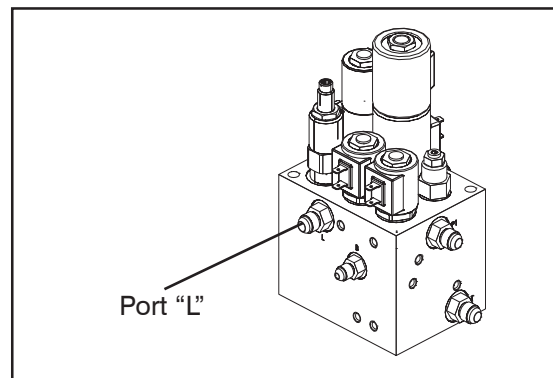

Figure 5-18. Lift Cylinder Hydraulic Hose Removal
3. Disconnect the lift cylinder hydraulic hose from the main hydraulic manifold (Port “L”). See Figure 5-18.